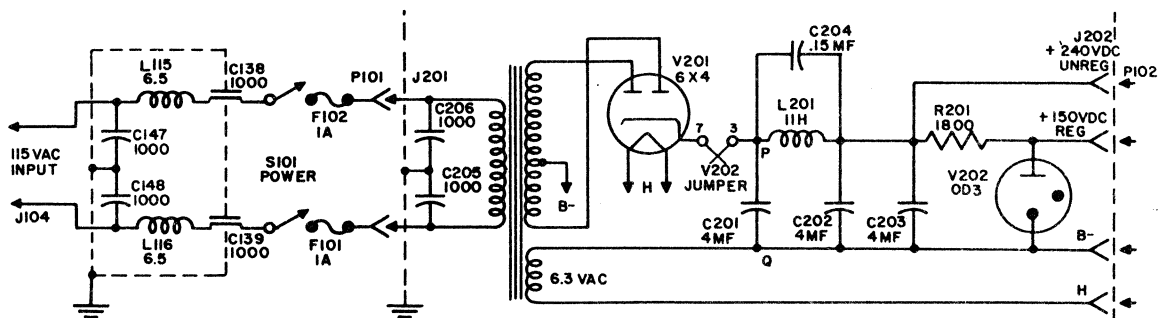

Figure 2-18. Schematic Diagram of the Power Supply PP-562A/URM-25.
(See figure 2-18).
shown in figure 2-18.
c. The plate supply voltage derived from the high voltage secondary and rectifier tubes (points PQ on figure 2-18) is approximately 240 volts DC and must be reduced to the required 150 volts DC regulated supply for all tubes except V-104 and V-108. This voltage drop is achieved by the DC series dropping network (L-201, R-201). A PI filter consisting of a choke (L-201) and three 4 microfarad capacitors (C-201, C-202, C-203) is provided as a ripple filter. The two 4 microfarad capacitors (C-202, C-203) are connected in parallel to increase the effective capacitance. A single 8 microfarad capacitor would introduce a problem of physical location. An additional .15 microfarad capacitor (C-204) is inserted in parallel with L-201 to form a 120 cycle resonant filter. This resonant filter lowers the 120 cycle power supply hum level.
d. In a regulator tube such as the OD3 (V-202), the voltage across the tube (150vDC) remains constant over a fairly wide range of current (5 to 40 ma) through the tube. This property exists because the degree of ionization of the gas in the tube varies with the amount of current that the tube conducts. When a large current is passed, the gas is highly ionized and the internal impedance of the tube is low. When a small current is passed, the gas is ionized to a lesser degree and the internal impedance is high. Over the operating range of the tube, the product ($I \times R$) of the current through the tube and the internal impedance of the tube is practically constant. If the supply voltage (points PQ on figure 2-18) drops, the voltage across the glow tube